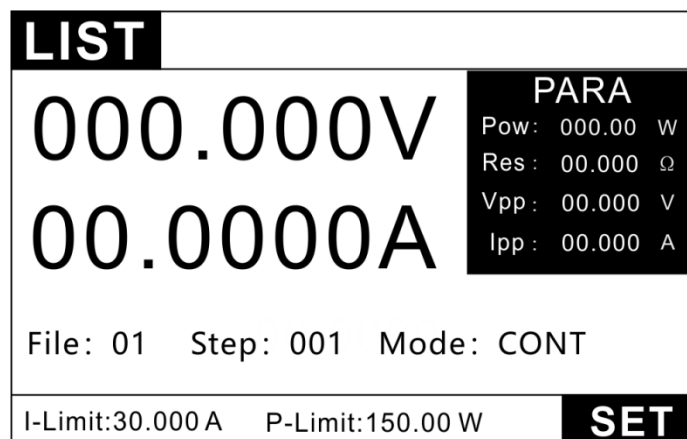
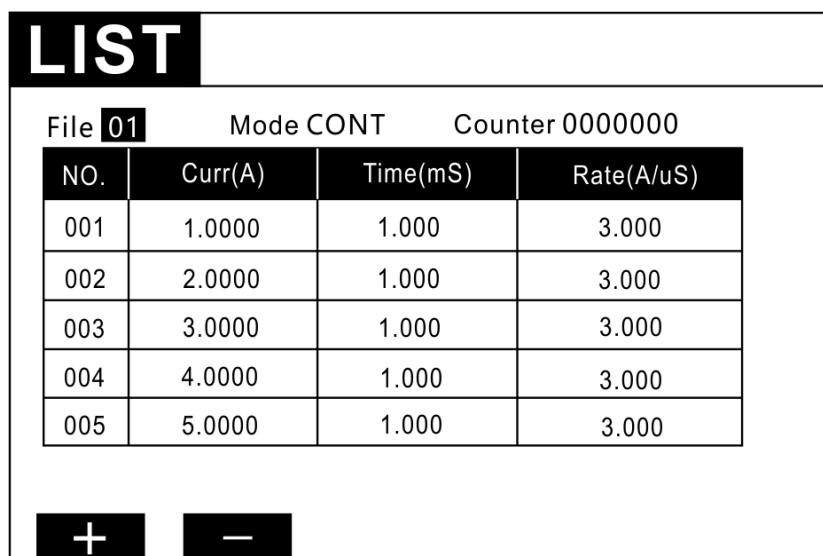

Figure 3.5 LIST mode test interface
Figure 3.6 Edit the LIST file
2. In Figure 3.5, press the key **SET** to enter the setting interface, as shown in Figure 3.6.
3. Select the desired file number by pressing the key + /-, as shown in Figure 3.6
6. Press the key ADD to increase the number of steps and set the parameters for each step, as shown in Figure 3.6.